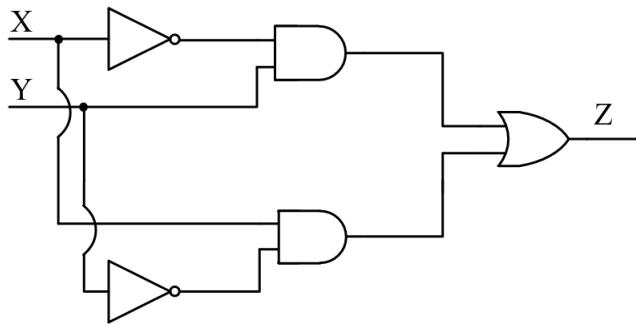

Fig. 3.7
- (A) $\overline{P \oplus Q} = P \odot Q$
- (B) $\overline{P} \oplus \underline{Q} = P \odot Q$
- (C) $\overline{P} \oplus \overline{Q} = P \oplus Q$
- (D) $(P \oplus \overline{P}) \oplus Q = (P \odot \overline{P}) \odot \overline{Q}$
17. Find the logic function implemented by the circuit given below in Fig. 3.7